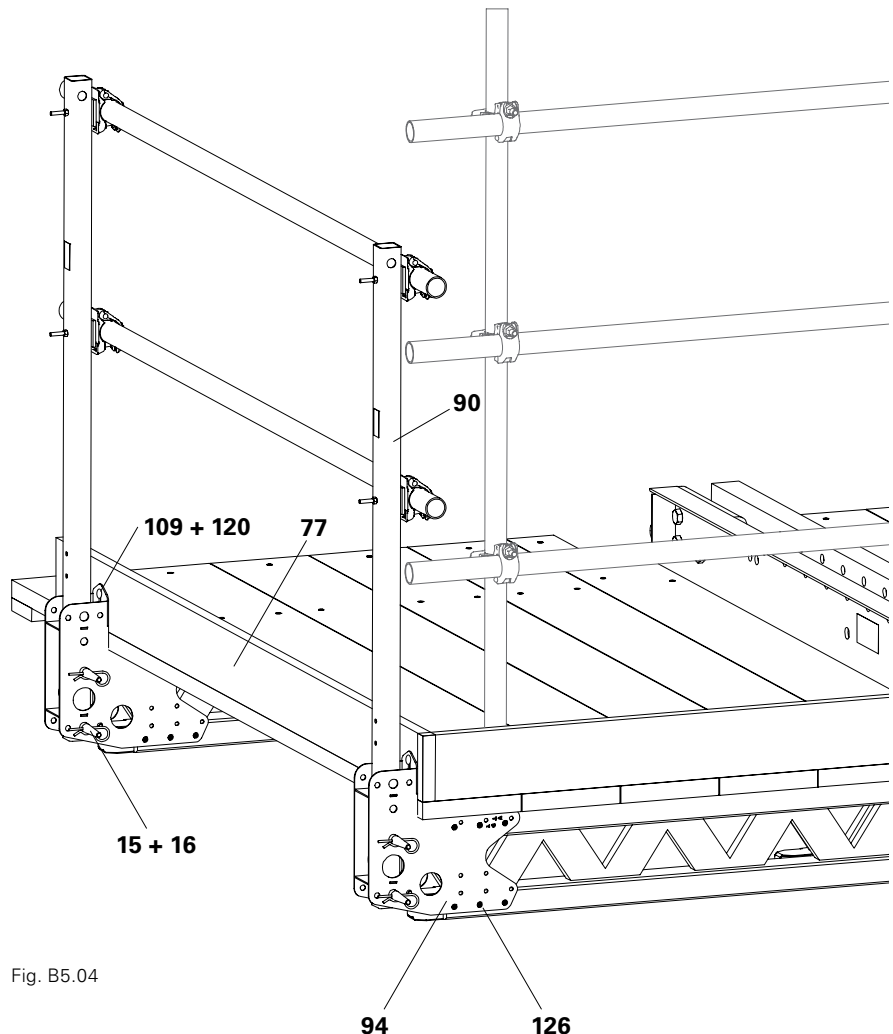

Fig. B5.04
1. Fix the Guardrail Post Holder Multi (94) to the girder (75) using 12x TSS Torx 6 x 60 (126).
2. Mount the Guardrail Post SCS 150 (90) using 2x fitting pins Ø 21 x 120 (125) and cotter pins 4/1 (16).
4. Fix Toeboard (77) to the Guardrail Post Holder Multi (94):
- Fix Toeboard using F.H. Bolt DIN 603 M8 x 45 MU (109) and washer ISO 7094 200 HV, A8 (120).
- (Fig. B5.04)